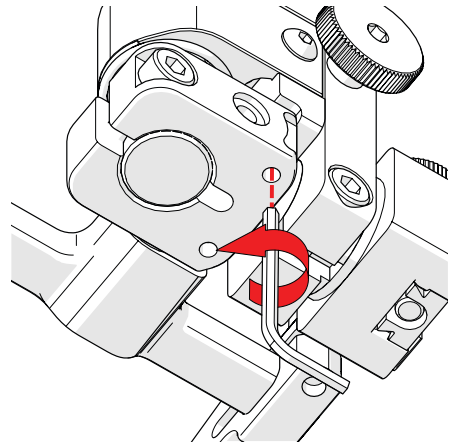

Fig. 125 - Lower 90° stop post
- 7.** Locate the recessed M3 screw (*stop post*) on the bottom of the probe holder. Unscrew the stop post using a 1.5 mm hex wrench until it has cleared all obstructions. Do not remove stop post (*Fig. 125*).